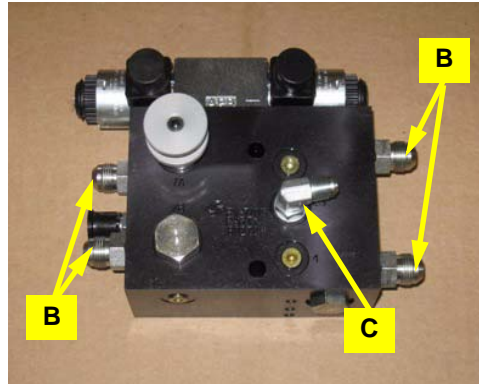

Figure 1: Prepared steering block
- b. Install the small elbow adapter fitting **C** in the **LS** port and the larger adapter fittings **B** in the **P**, **T**, **A** and **B** ports (Figure 1).